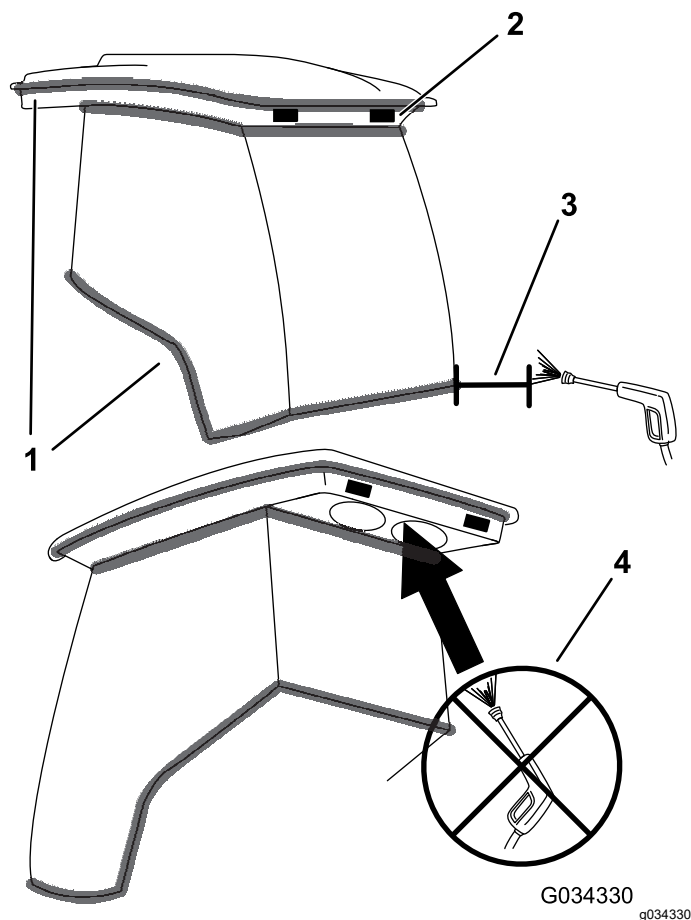

Figure 92
**Important:** Use care around the cab seals and lights (Figure 92). If you are using a pressure washer, keep the washer wand at least 0.6 m (2 ft) away from the machine. Do not use the pressure washer directly on the cab seals and lights or under the rear overhang.